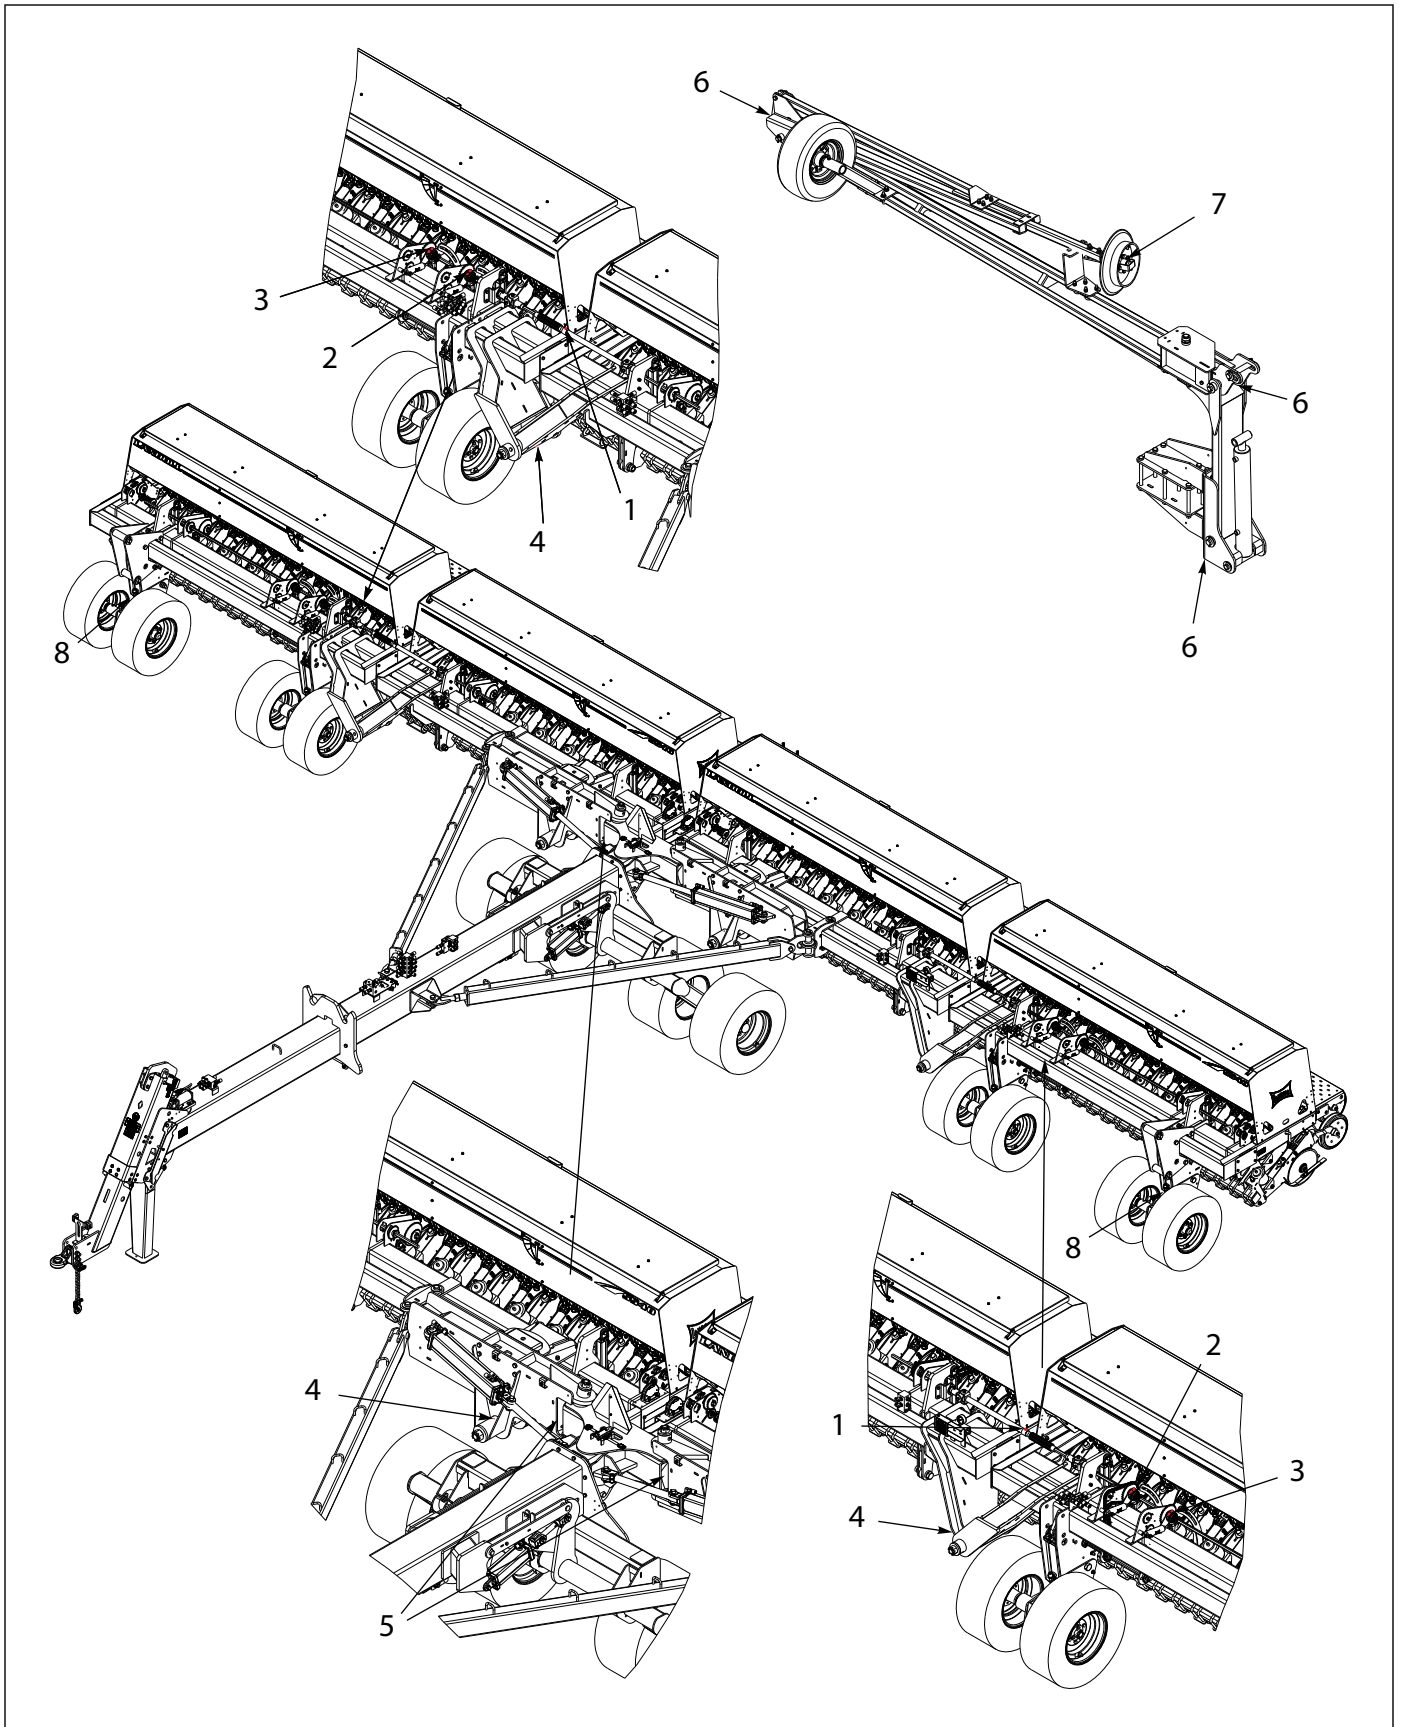

Figure 4-37: Lubrication Points
1. See "LUBRICATION TABLE" on page 4-42 specifies the lubrication points and intervals on the 5540 Grain Drill. Proper maintenance of your machine will, under normal operating conditions, help to keep it operating at or near its peak performance for an extended period of time. Proper maintenance is also a condition of keeping your warranty in good status (See Figure 4-37.)